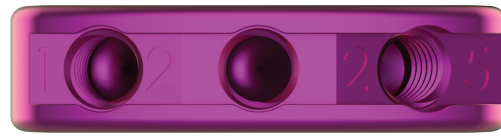
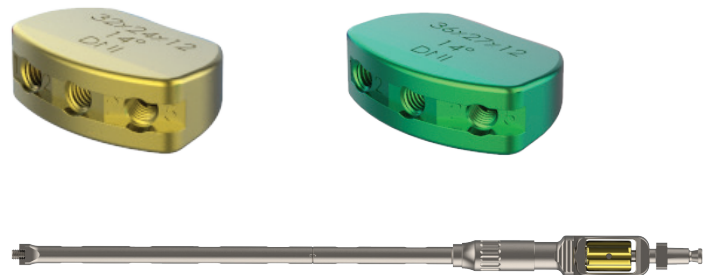

Figure 4a
Figure 4b
- Start with a small trial height and footprint (Figure 4a). Use progressively increasing heights of the trials until the appropriate height distraction is achieved. Radiographic confirmation will determine the appropriate Trial height, lordosis, and footprint for the anatomical conditions. Select a trial and attach it to the inserter (330H0001): (Figure 4b).